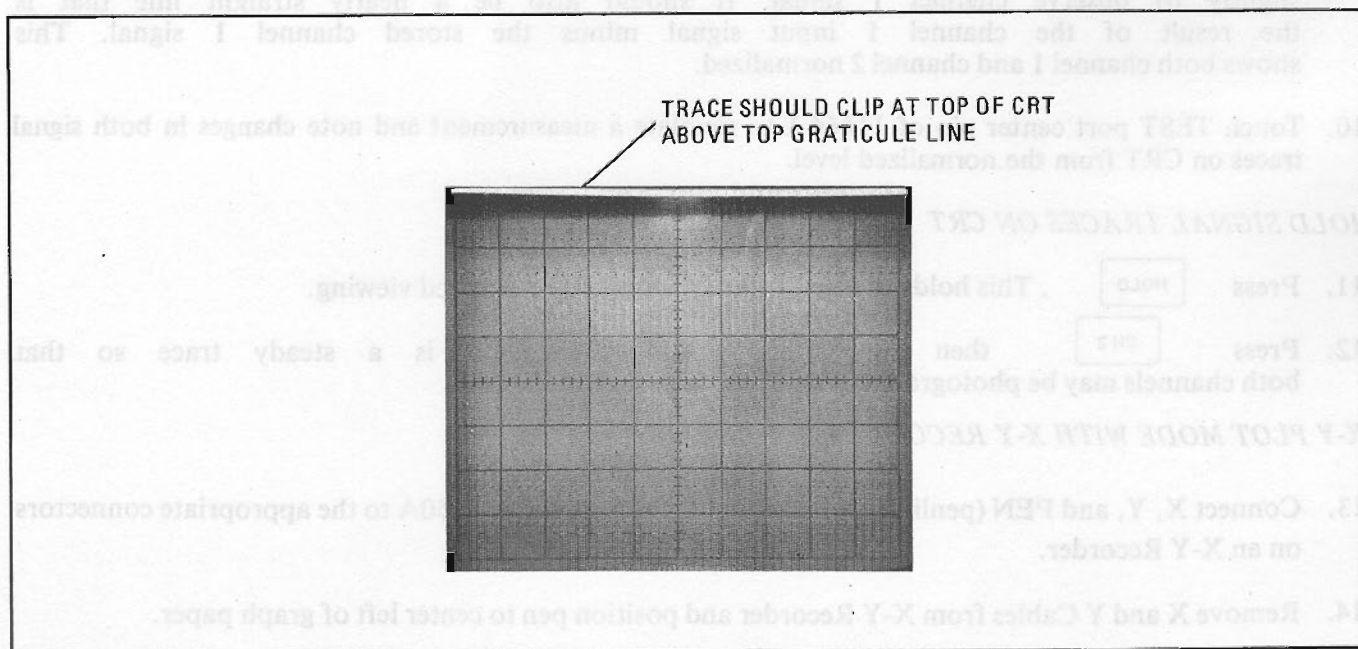

Figure 3-8. Vertical Display Adjustment
9. On 8750A, press then . The trace should be a horizontal line. Adjust front-panel VERT POSN (vertical position) control to place the trace on the center graticule line. Press then move the trace well off the top of CRT with 8755B Channel 1 VERNIER. On 8750A, press , then adjust 8750A front-panel VERT GAIN so the display limits approximately 1/8 inch above the top graticule line. (See Figure 3-8.)